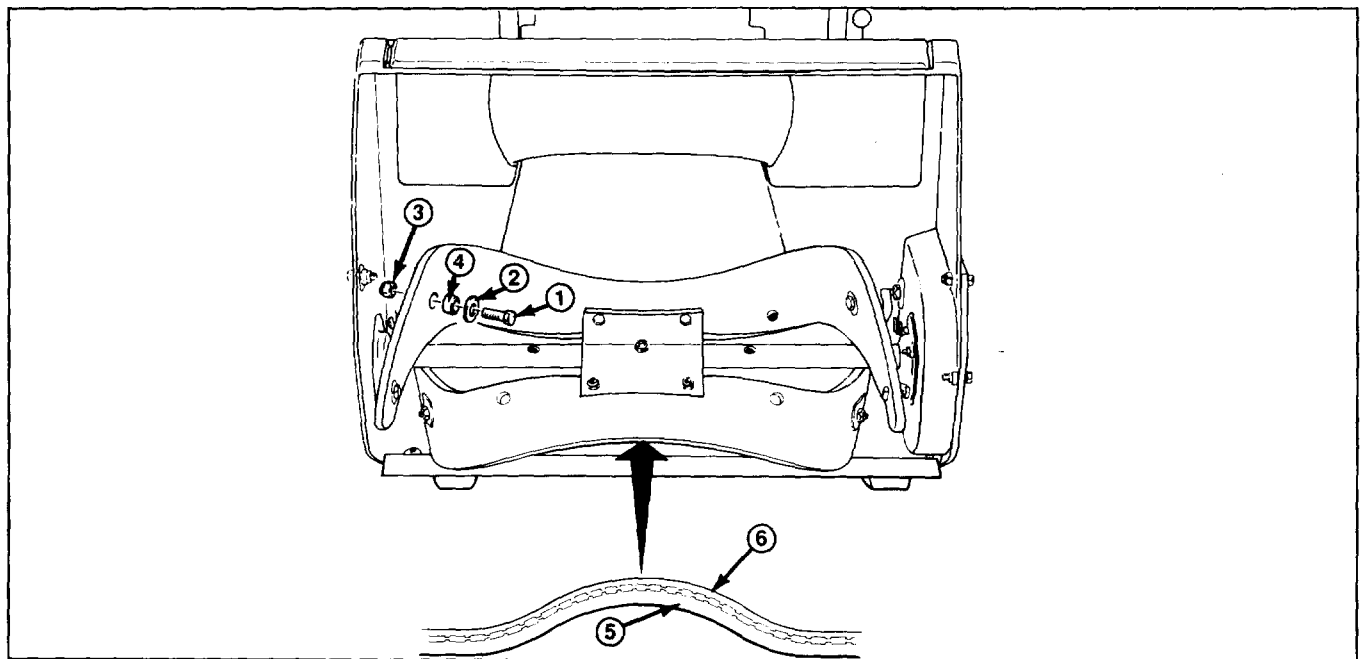

Figure 19
1. REMOVING BLADE (Fig. 19) — Remove (6) 7/16" bolts, (4) washers, and (6) locknuts securing blade to rotor shaft assembly.
2. Slide the blade out from between the steel plates and push the (6) bushings out of the blade holes (Fig. 19).
3. INSTALLING NEW BLADE — The rotor blades are made of laminated rubber. Examine the edge of a blade to see the difference in layer thicknesses (Fig. 19).